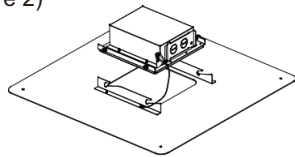

Figure 2
3. Take off the hook on safety cable from the plate, take out the fixture from the plate. (Figure 2)